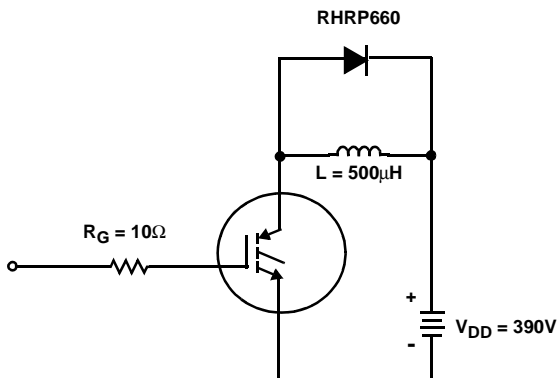

FIGURE 20. INDUCTIVE SWITCHING TEST CIRCUIT
- Values for two Turn-On loss conditions are shown for the convenience of the circuit designer. E_{ON1} is the turn-on loss of the IGBT only. E_{ON2} is the turn-on loss when a typical diode is used in the test circuit and the diode is at the same T_J as the IGBT. The diode type is specified in Figure 20.